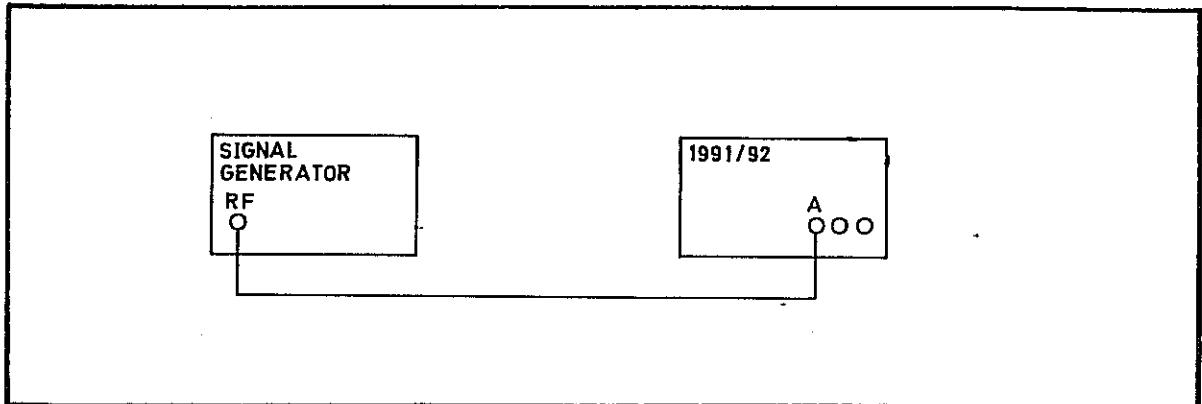

Fig 7.21 Connections for Minimum Time Interval PVP
- 57 (1) Connect the test equipment as shown in Fig 7.21.
- (2) Select 50 Ω on channel A, T.I. A B and COM A.
- (3) Set the signal generator output to 100 MHz at a level of 1 V.
- (4) Verify that a display of  $0 \pm 2\text{ns}$  is obtained.
- (5) Disconnect the test equipment.